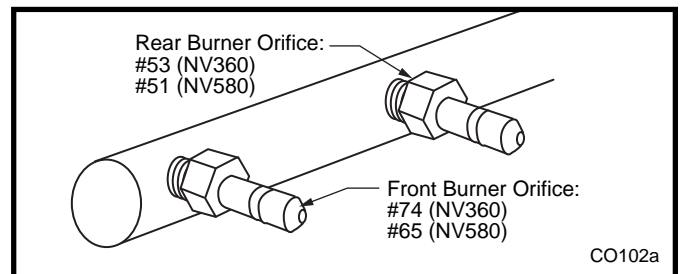

Fig. 23 Remove burner orifice, replace with LP orifice.
8. Remove burner orifice from manifold assembly using 3/8" wrench. (Fig. 23)